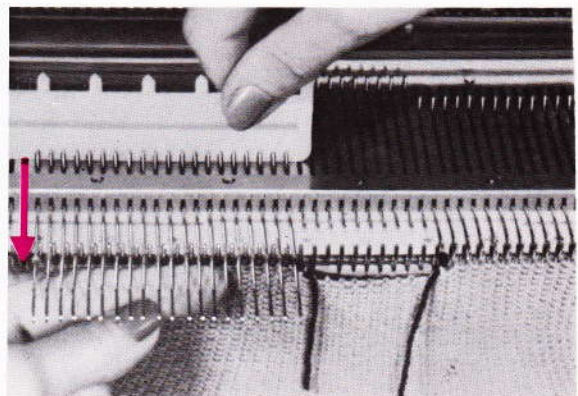

Fig. 172
3. — Using the flat needle selection bar push the 20 needles at the left to F position at the same time holding the work against the needle bed with the left hand, (fig. 172). From now on only the needles on the right will knit.